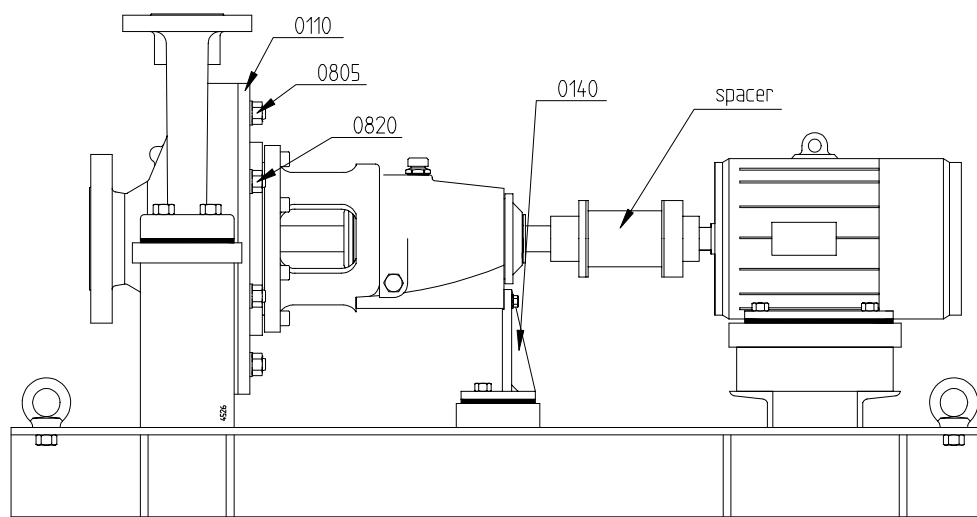

figure 8: Disassembly of the Back-Pull-Out unit.
- 3 Loosen the bracket support (0140) from the base plate (see figure 8).